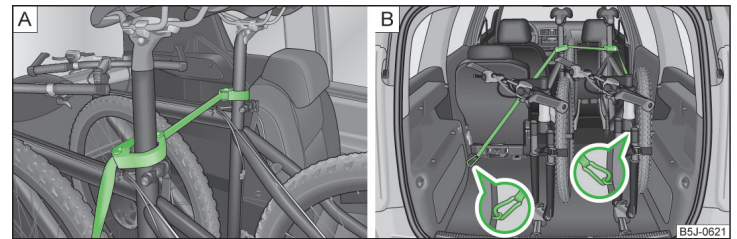

Fig. 75 Securing bicycles
- Position the clamp with the rubber part to the front (in direction of travel) as low down on the seat post as possible and lock it » Fig. 75 - **A**.
- When transporting two bicycles, stretch the belt » Fig. 75 - **A** between the saddles by moving the bicycles apart.
- Hook the carabiners on the ends of the belt into the lashing eyes behind the rear seats » Fig. 75 - **B**.